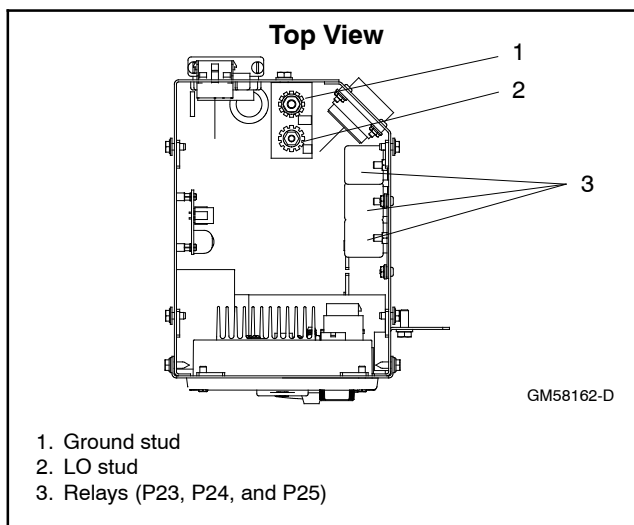

Figure 6-2 ADC II Controller
7. Disconnect the LO and GRD lead connections. See Figure 6-2.
9. Remove the relays as necessary. See Figure 6-2.